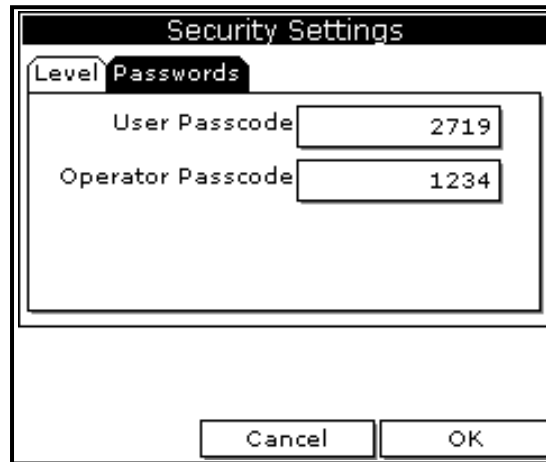

Figure 66: Passcode Entry Window
4. Use the arrow keys to move to the Passwords tab and press **[ENTER]**. The screen appears similar to *Figure 66*.